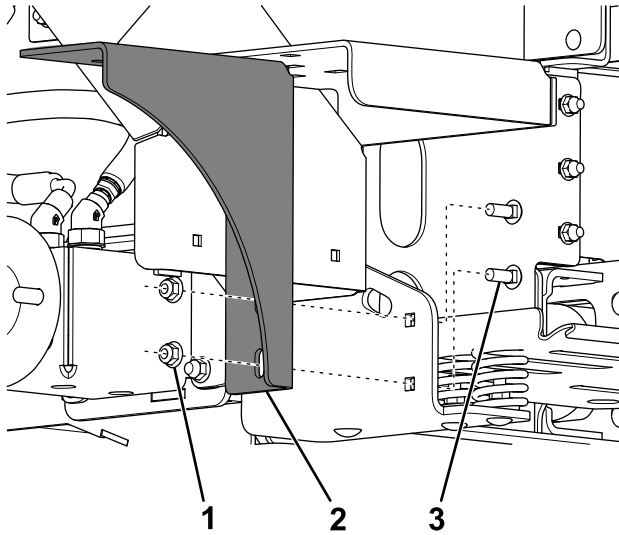

Figure 3
7. Secure the left vertical bracket to the operator platform using 2 short bolts and flange nuts (Figure 3).